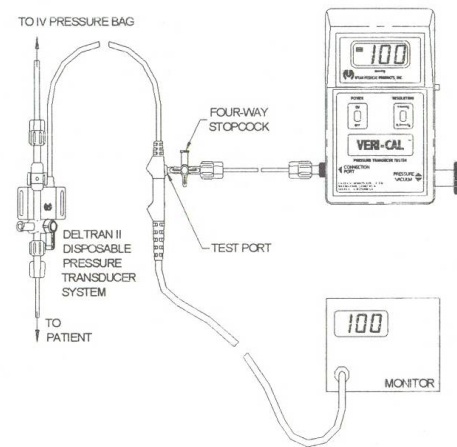

Figure 5
- When both the monitor and Veri-Cal read zero, position the handles on the stopcocks as shown in Figure 5.
With the stopcocks positioned as shown in Figure 5, the system is now ready for testing. A series of static pressure is generated by turning Veri-Cal's adjustment knob. The applied pressure is indicated on the digital display. This reading should be compared to the reading on the monitor to determine the accuracy of the measurement system.
Veri-Cal™, as shown in Figure 5, is used in conjunction with a disposable transducer incorporating a test port located on the backside of the transducer's cable connector. In this case, Veri-Cal™ has generated a